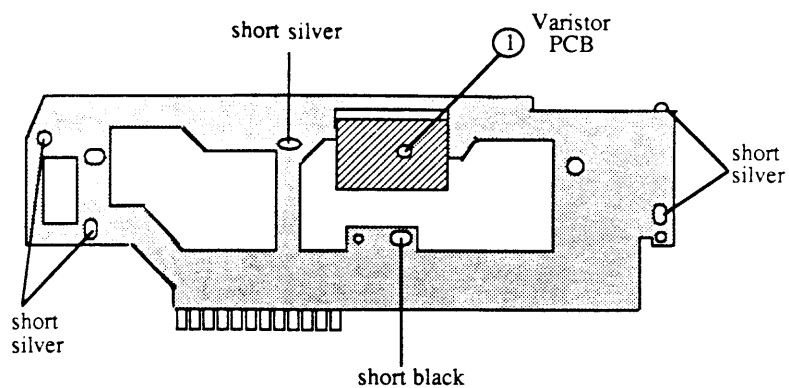

FIGURE 2-15
- a) Remove the three connectors from the varistor PCB (Figure 2-15, #1, and Photo 1, #10).
- b) Mark the type of screw at each location on the frame with a pencil (for example, "short silver" or "long black"). Then remove screws and lift off the frame piece (Figure 2-15).